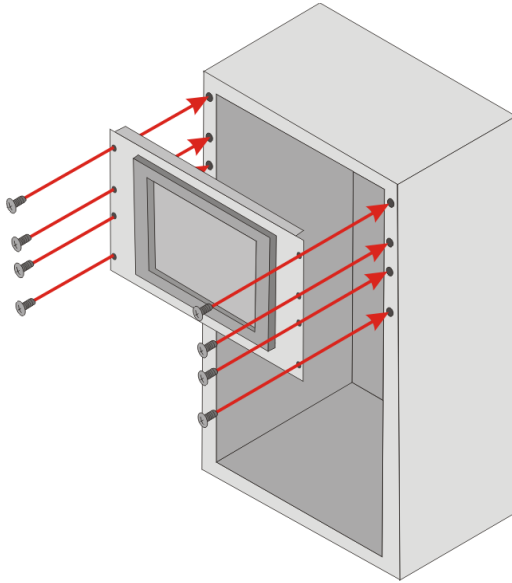

Figure 3-37: Install into a Rack/Cabinet
Step 5: Slide the PPC-FxxA-H81 with the attached rack/cabinet bracket into a rack or cabinet (**Figure 3-37**).
Step 6: Once the flat panel PC with the attached rack/cabinet bracket has been properly inserted into the rack or cabinet, secure the front of the rack/cabinet bracket to the front of the rack or cabinet (**Figure 3-37**).